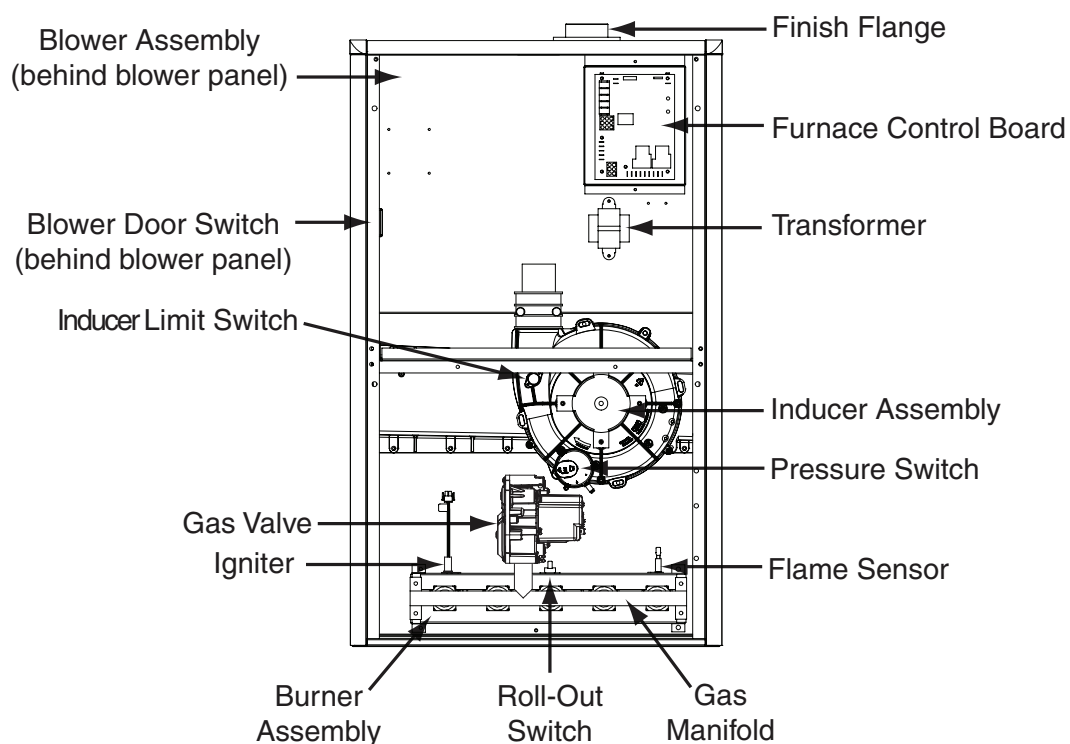

Figure 48. *SL & *SM Component Locations
- If the Inducer Blower is operating, and items above have been verified, check the Blower Limit Switch and reset if necessary. See Figure 47 (page 51) or Figure 48 (page 52) for component location.
The descriptions below are various functional components that affect the operation and shutting down of this furnace. Some of these components and their locations are shown in Figure 47 \(page 51\) or Figure 48 \(page 52\). If any component of the furnace must be replaced, use only factory authorized replacement parts specified in the Replacement Parts List provided online.